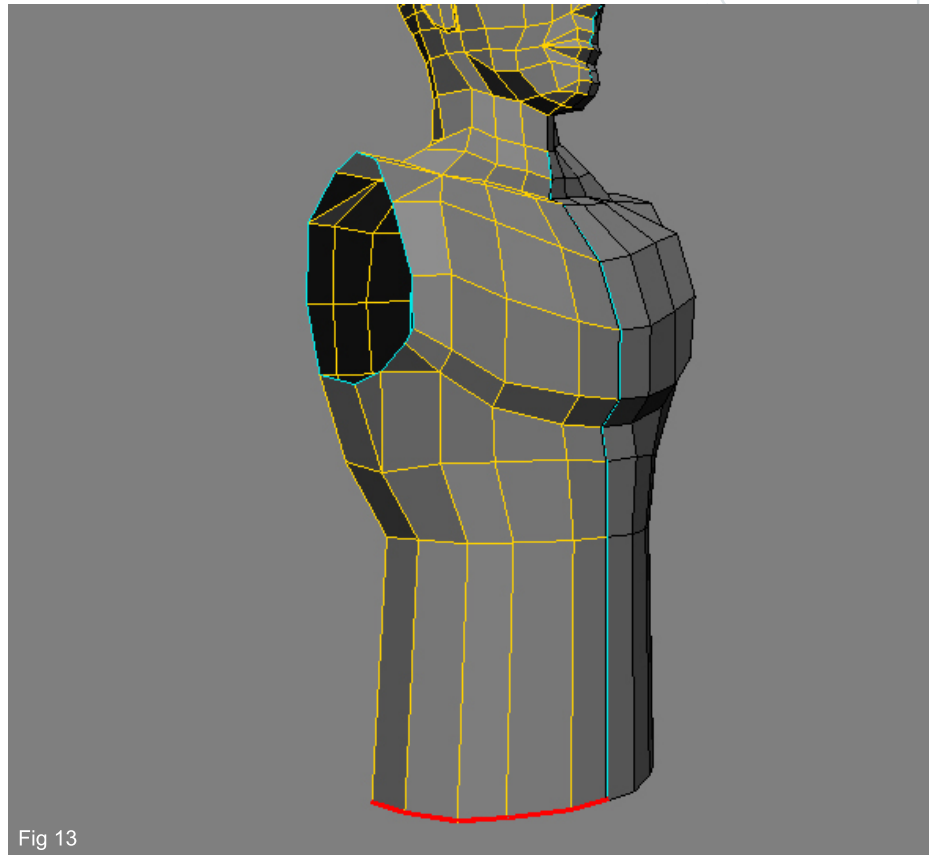

Fig 13
13. Select the bottom loop of edges and extrude it once again. This time, make a nice, long extrusion (Fig13).